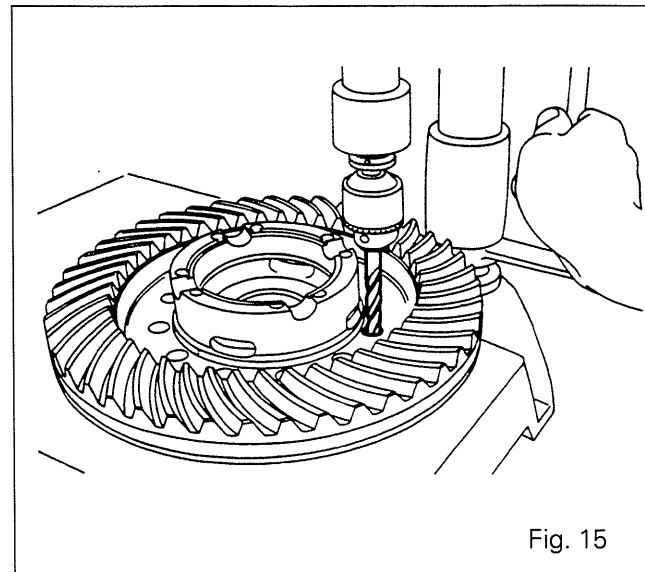

Fig. 15
87. Strike the centre of each rivet (19) with a punch (on the crown wheel teeth side). Drill the rivets to a depth of 10 mm with a 5 mm diameter drill (Fig. 15).